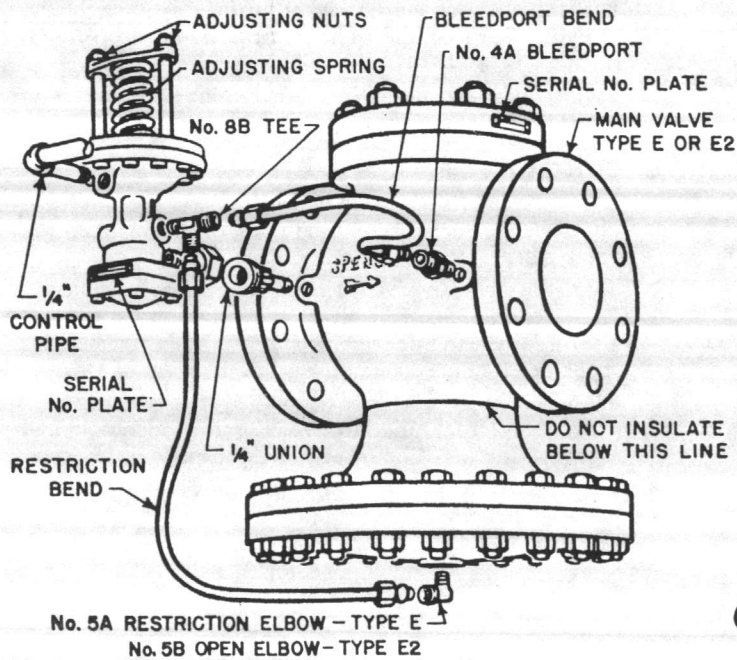
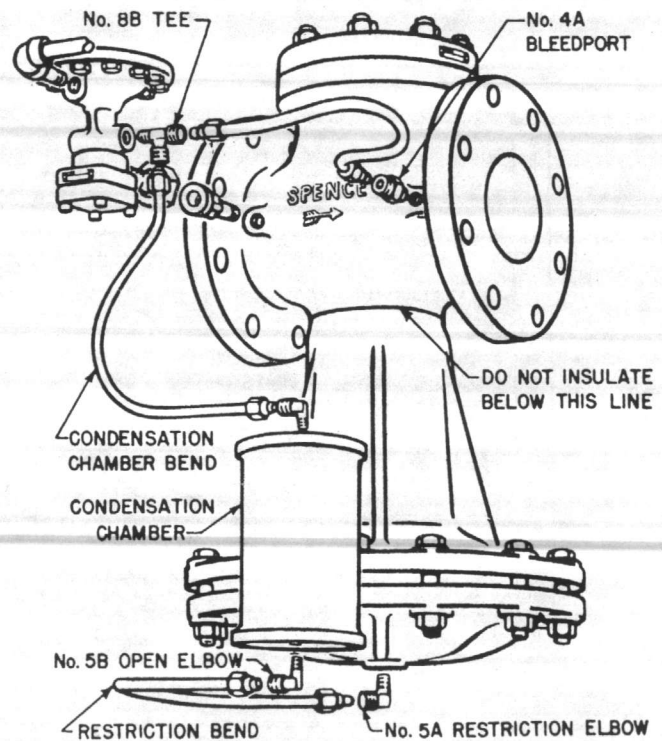

Fig. 2 — Regulator Assembly for Type E or E2 Main Valves
Fig. 3 — Regulator Assembly for Type E5 Main Valve with Condensation Chamber
5. Connect tubing bends as illustrated in Fig. 2. Valves with condensation chamber are fitted up according to Fig. 3.
1. Insulation may be applied to the upper portion (globe and flanges) of the main valve. Do not insulate the diaphragm chamber, condensation chamber (if used) or any part of the pilot. See Figs. 2 and 3.
2. Close pilot by releasing compression on adjusting spring. See Fig. 2.
2. When steam is turned on, it flows through the pilot, see Fig. 2, to the No. 8B tee. Bleedport No. 4A restricts the flow, builds pressure under the diaphragm and opens the main valve. Restriction No. 5A steadies the operation of the regulator.
- a. Adjusting spring, Fig. 2, may have been tampered with.
- c. Orifice in No. 5A restriction elbow, Fig. 2, may be plugged. No. 4A bleedport fitting, Fig. 2, may have been omitted and an open coupling substituted.
2. Remove bleedport bend, Fig. 2, so pilot will exhaust to atmosphere.
1. Inspect for dirt collected at bleedport No. 4A and restriction elbow No. 5A, see Fig. 2.